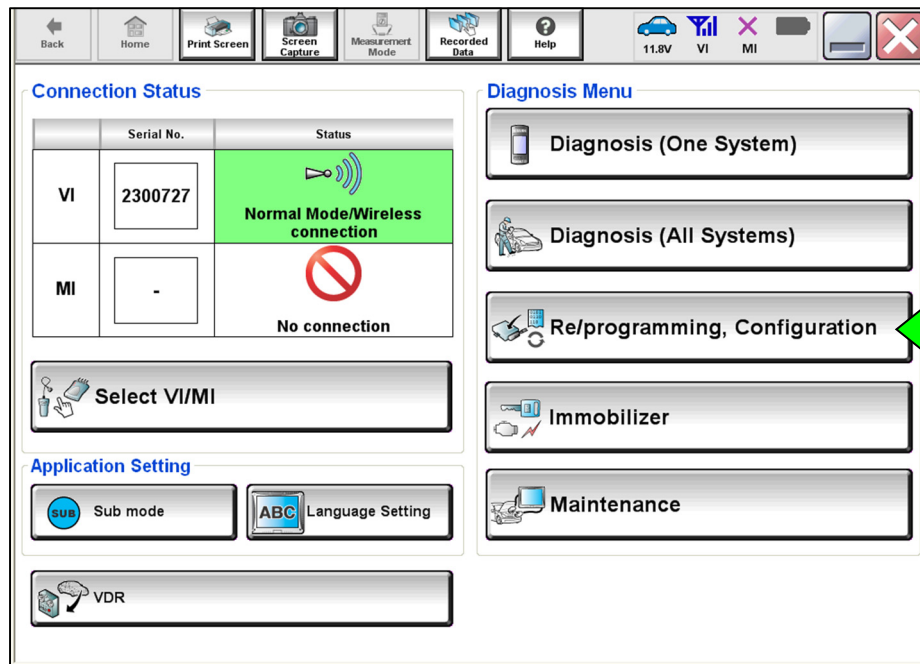

Figure 1
7. Connect the Vehicle Interface (VI) to the vehicle.
- The serial number will display when the VI is recognized (Figure 1 on page 5).